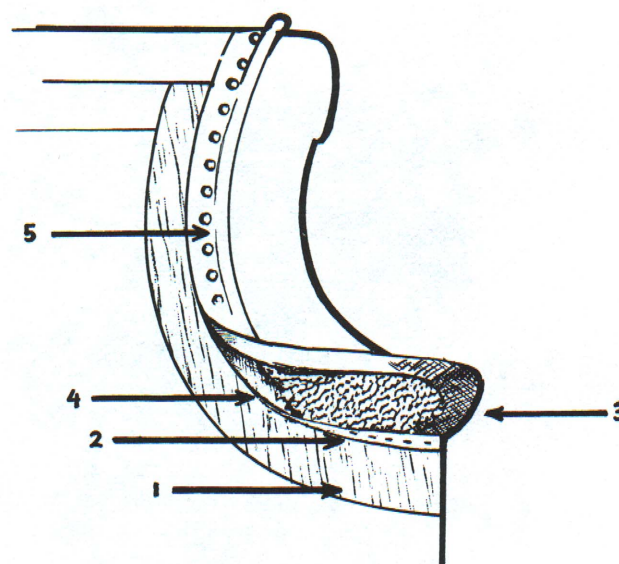
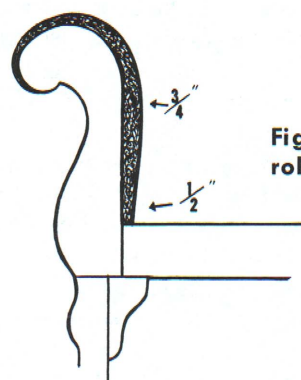

Fig. 29—A stuffed edge roll for front of arm.
Fig. 30—Shaped edge roll on curved arm.
A small roll of padding should be tacked on the edges of the frame of the arms, back and wings which will be covered. This roll (1) keeps stuffing from working away from the edges, (2) gives a firm foundation for other padding, and (3) keeps edge of wood from wearing the cover. You can buy prebuilt edge rolls, make them on a chair or make them and tack to the chair. (Figs. 29, 30 and 31).
To make a small edge roll on the chair, cut a piece of burlap 2 inches wide and as long as the edge to be padded. Cut it straight with the thread for straight edges and bias for curved. Use wider burlap strips for larger rolls. Place $\frac{1}{2}$ " of one edge of burlap on the edge of the wood, covering it with a $\frac{1}{2}$ " strip of cardboard. On outside curves lay a few pleats in the burlap to give needed fullness. The cardboard must be flush with the edge of the wood (Fig. 29). The other $1\frac{1}{2}$ inches of burlap will extend beyond the wood. Tack the burlap and cardboard to the wood. Pack some moss into a very firm even roll about $\frac{3}{4}$ " to 1" in diameter—tapered to $\frac{1}{2}$ " at the ends (Fig. 30). Lay the roll of moss on the
cardboard, pull the burlap very tightly over it, and tack to the frame with a second row of tacks just outside the first (Fig. 29).